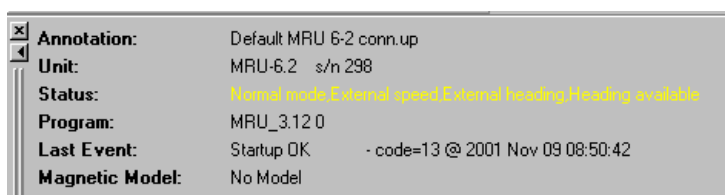

Figure 11 MRU Info Bar
- The status of <Ext head> and <Ext speed> appears in the MRU Info Bar in the MRC configuration software as shown in Figure 11. This verifies that the external input information is correctly received by the MRU. If not, the MRU has not accepted the messages you tried to send. If there are problems, then output the variables ExtSpeed (var.no. 160) and ExtHead (var.no. 162) from the MRU in order to monitor the external signals received by the MRU.